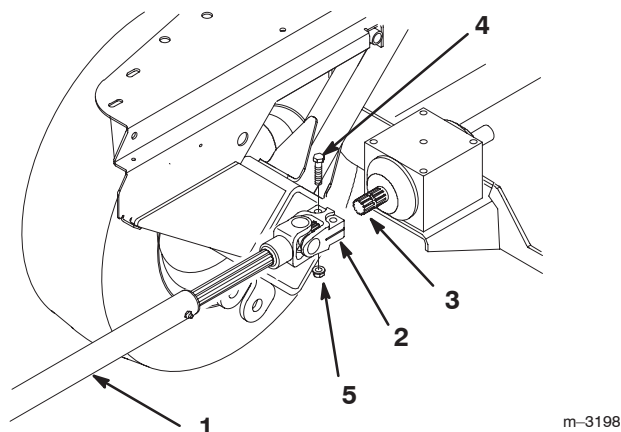

Figure 29
- Slide the drive shaft on gearbox shaft. Install 2 bolts (3/8 x 1-5/8 inch) and locknuts (3/8 inch) in universal joint (Fig. 29).